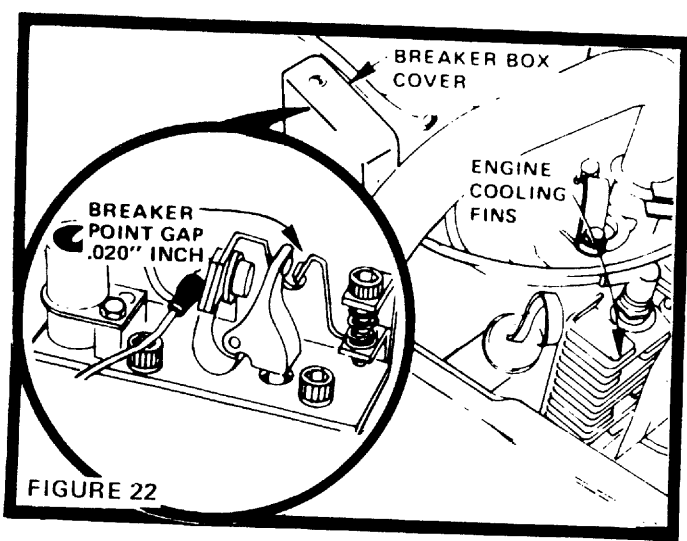

FIGURE 22
Remove any dust, dirt or oil from Engine Cooling Fins (Fig. 22) to prevent Engine damage from overheating.
- Remove Breaker Box Cover (Fig. 22) by loosening Screw and lift off to remove.